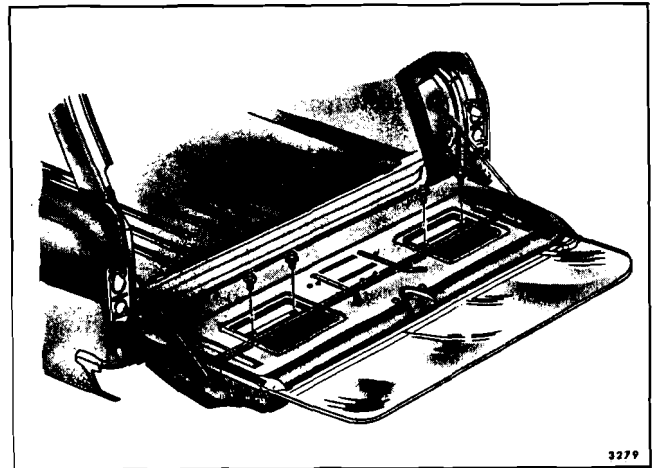

Fig. 9-41—Tail Gate Inner Cam Attachments
2. Operate tail gate window to a point that sash channel cam attaching bolts are accessible as depicted in Fig. 9-41.